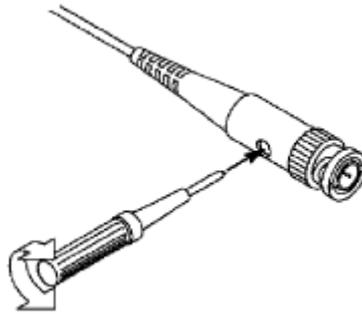

Fig. 4-9 Adjust Probe
2. Check the displayed waveforms and regulate the probe till a correct compensation is achieved (see Fig.4-8 and Fig.4-9).